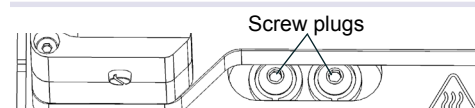

Fig.2: Screw plugs of the cooling fluid reservoir
- Loose the screw plugs of the cooling fluid reservoir (→ fig. 2).